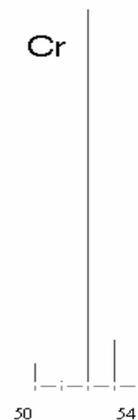

Figure 1. Cr isotope peaks
In your earlier mass spectrometry experiment on methylchloride and methylbromide, you used the isotope peaks to calculate the average molar mass of Cl and Br. Isotope peaks can also be very useful for transition metal complexes. The isotopes of Cr are listed in Table 1. Many metals have characteristic isotope ratios, so observing the isotope peaks in MS confirms the presence of the metal in the complex. In other words, metal complexes with one Cr should have an isotope pattern similar to Figure 1.
- Expand the profile spectrum to show the isotope peaks around 250 m/z. To expand the plot move the mouse cursor until the cursor changes to a “↔”, see Figure 6. Then use the right mouse button to control the scale expansion and the left mouse button to control the scale offset. When you have expanded the scale sufficiently, you will see the isotope peaks clearly as shown diagrammatically in Figure 1.